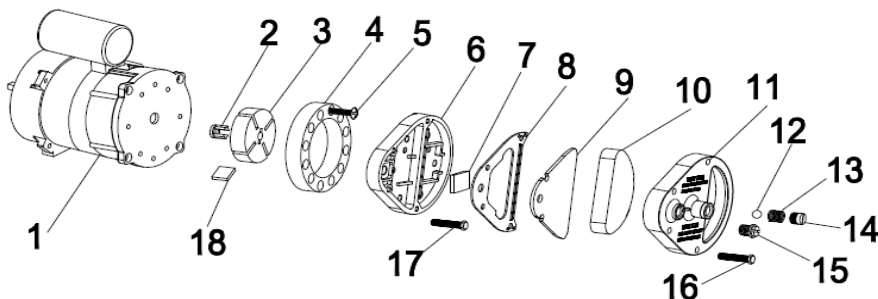

Fig.2
Clean air filters. Remove filter end cover (11), wash air intake filter (10) using a light detergent and dry it thoroughly before re-installing. Replace air delivery filter (9) once a year (Fig.2)